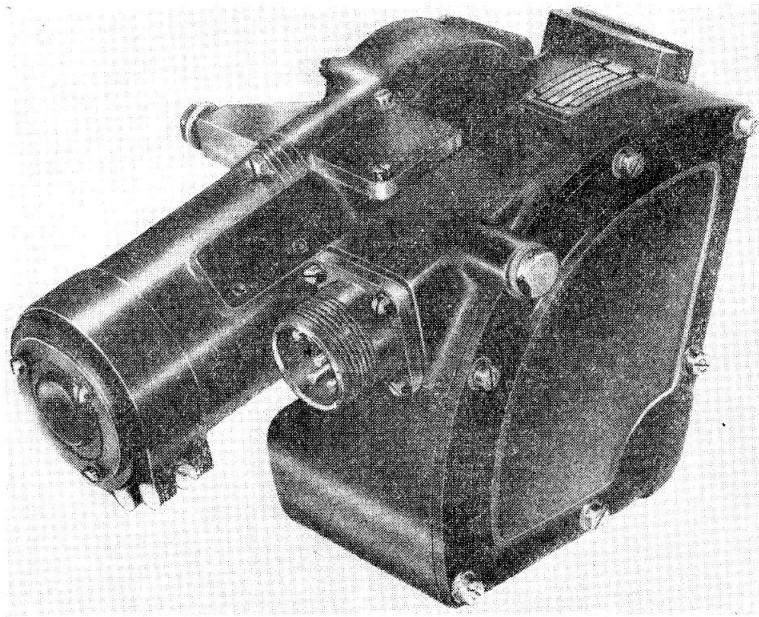

Fig. 1. Retraction unit, Type C8901
1. The unit (*fig. 1*) is a 28 volt d.c. rotary actuator having a gear ratio of 2,040 : 1, which is used to extend and retract a landing lamp, Type J, Mk. 2 or K, Mk. 2, situated in the aircraft wing. Reversal of rotation is effected by switching in the appropriate field windings of the motor.